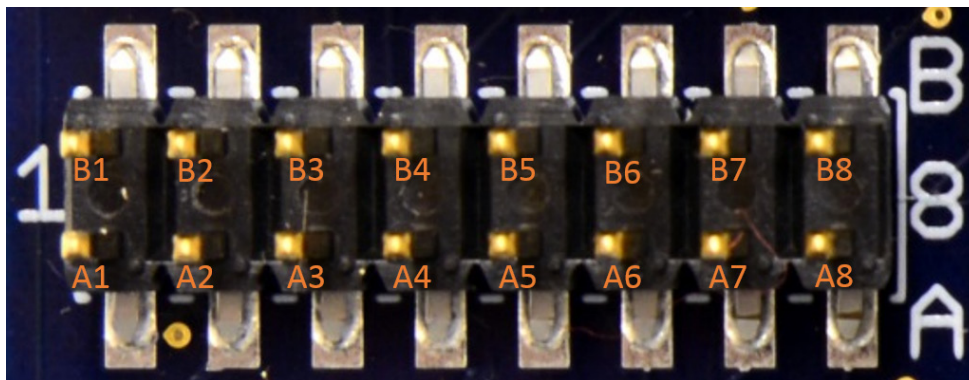

Figure 3. Male header pins
- ◆ Monitor the output signal from DAC0, located on the 8x2 male header pins on the board. This is pin A1 in Figure 3. Connect an oscilloscope probe to A1, clipping the probe's ground to either GND pin (A2 or B8 in Figure 3). The oscilloscope should display the same waveform as the Serial Plotter (though likely with different scaling). Users monitoring two channels can connect a second oscilloscope probe to DAC1 (pin B1 in Figure 3) and view the second channel simultaneously.
- ◆ Monitor the activity detection signal from Digital Pin 4 (pin A4 in Figure 3). Connect another oscilloscope probe to this pin, clipping the probe's ground to GND (pin A2 or B8 in Figure 3). When the threshold is properly set, a muscle flex (for EMG) or heartbeat (for ECG) should trigger a high signal for the length of the muscle contraction, and otherwise be low. Users monitoring two channels can connect a second oscilloscope probe to Digital Pin 5 (pin B4 in Figure 3).
In order to monitor how much time the ISR takes compared to the interrupt period, it is helpful to use Digital Pin 2 (B3 on Figure 3). At the start of each ISR, pin 2 is set high, and at the end of each ISR, pin 2 is set low. Thus, by measuring the duty cycle of this signal, the developer gets an estimate of processing time vs. allotted time. For example, when the notch filter is disabled (switch 4 is off), the ISR takes 68 microseconds to execute (and executes every 500 microseconds). Hence, the duty cycle on pin 2 is about 14%. When the notch filter is enabled, the ISR takes about 182 microseconds, so the duty cycle increases to 36%. Due to potential fluctuations in the logic paths and processing efficiency of different ISRs, it is recommended to keep this duty cycle below 80%. If the user changes the processing load of `loop()` within the .ino file, it may be helpful to use pin 2 to monitor `loop()` instead of the ISR. Simply comment or delete the `digitalWrite(2, HIGH/LOW)` statements in the ISR, and place them in `loop()` surrounding the processor-intensive code of interest to determine how much time the processor is spending on it.